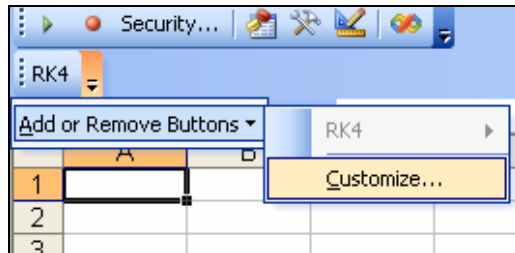

Figure 1a.
1. Right-click on the **[RK4]**-toolbar option button (down-arrow on the right of the button), and then select **[Add or Remove Button]**→**[Customize]** menu. (see Figure 1a).